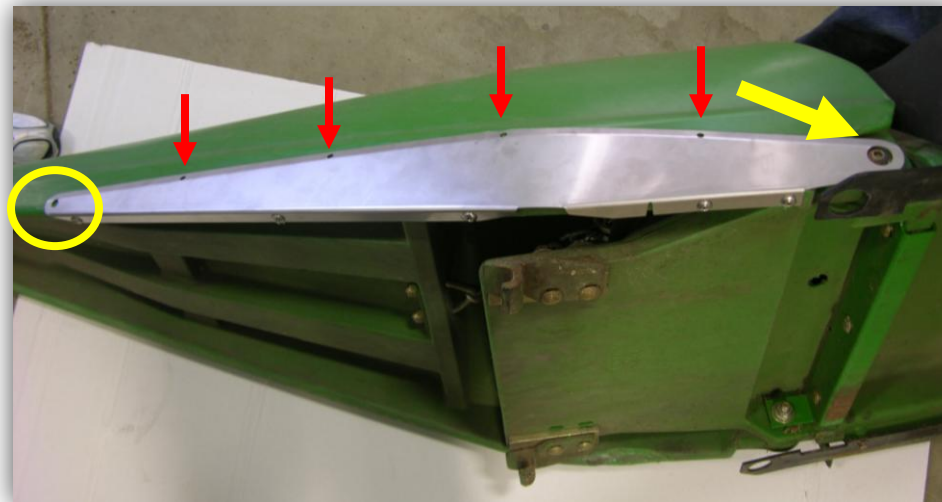

Figure 1
Refer to Figure 1
- 1.2 Fit Stainless Steel Plate (LANPSP101L or LANPSP101R) into position as shown in Figure 1.